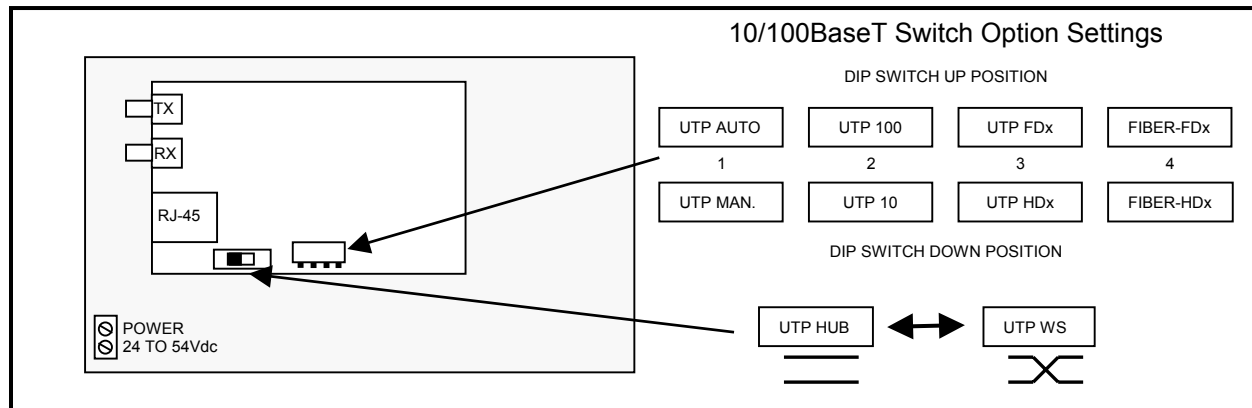

Figure 1 Layout and Option Switches
4.1 Multimode or Single-Mode Ethernet 10/100BaseT Cards are equipped with two female optical connectors. Connect fibers to the Transmit (TX) and Receive (RX) optical connectors. The TX optical on the CO Card must be connected to the RX on the SUB Card. See Figure 1.
5.1 Five switch option settings are located on the bottom of the sub-assembly on the Ethernet 10/100BaseT Card. Refer to Figure 1 for correct application settings.